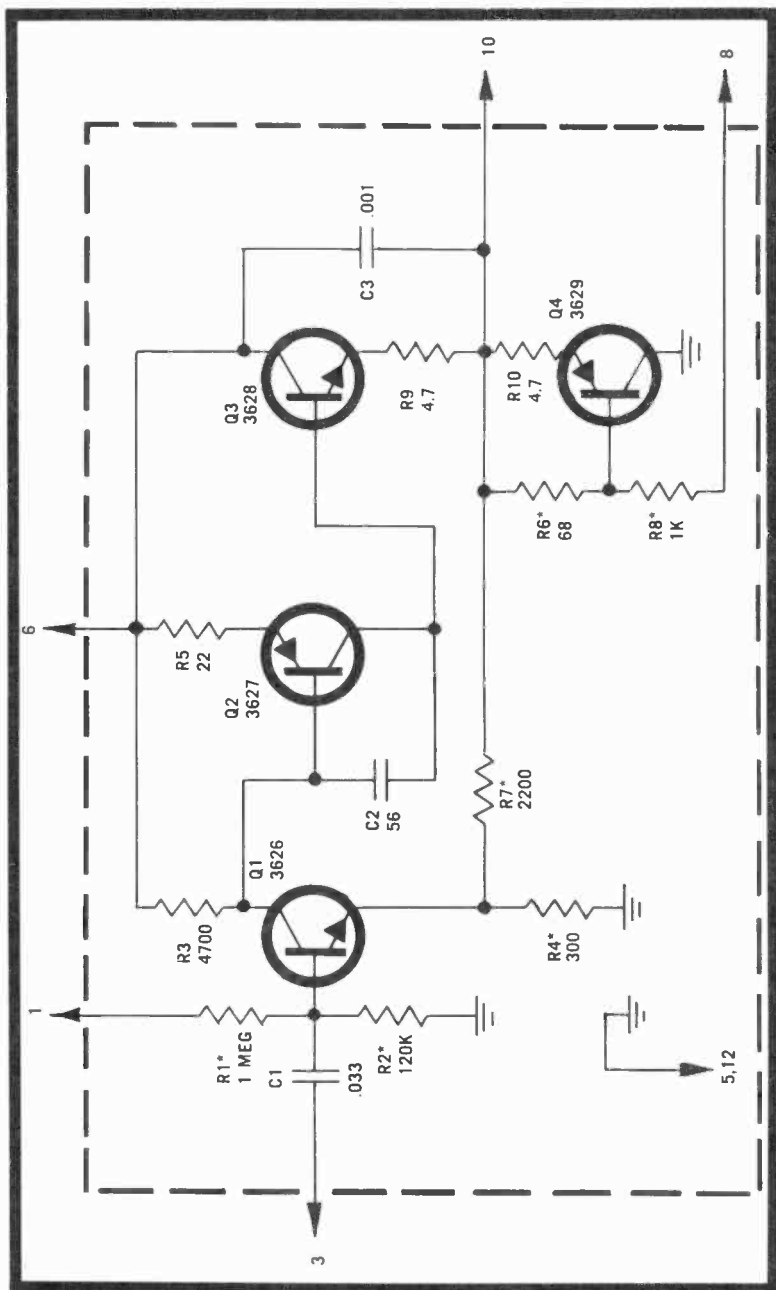

Fig. 6-22. Schematic of the MAN 2 Module phenolic version.
The MAN 2A module (Fig. 6-22) receives its input from terminal 12 of PM200 through a 0.033-mfd capacitor between base bias resistors R1 and R2. The signal is amplified through Q2 with a little degenerative feedback to the base of Q3. Transistors Q3 and Q4 constitute a Class B push-pull amplifier, with Q3 taking incoming voltages from Q2; Q4 requires negative polarity inputs on its base or positive inputs on its emitter. Feedback applied is through terminal 8, following the 50-mfd capacitor at output terminal 10.
17. Can you guess how Q4 in Fig. 6-22 works?